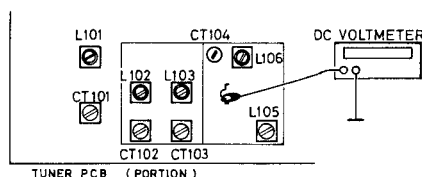

Fig. 1
4. Receive 90MHz (90.1MHz) signal from FM signal generator. Antenna input should be set to the optimal level where adjustment can be carried out satisfactorily with the appropriate amount of noise contained in the signal wave ($2\mu V$). Adjust FM IFT L105 so that the waveform is largest and contains noise uniformly on the top and bottom of the waveform. (See Fig. 1)
Régler FM IFT L105 de sorte que la forme d'onde soit plus grande et contienne le bruit uniformément sur le sommet et le fond de la forme d'onde. (Fig. 1)